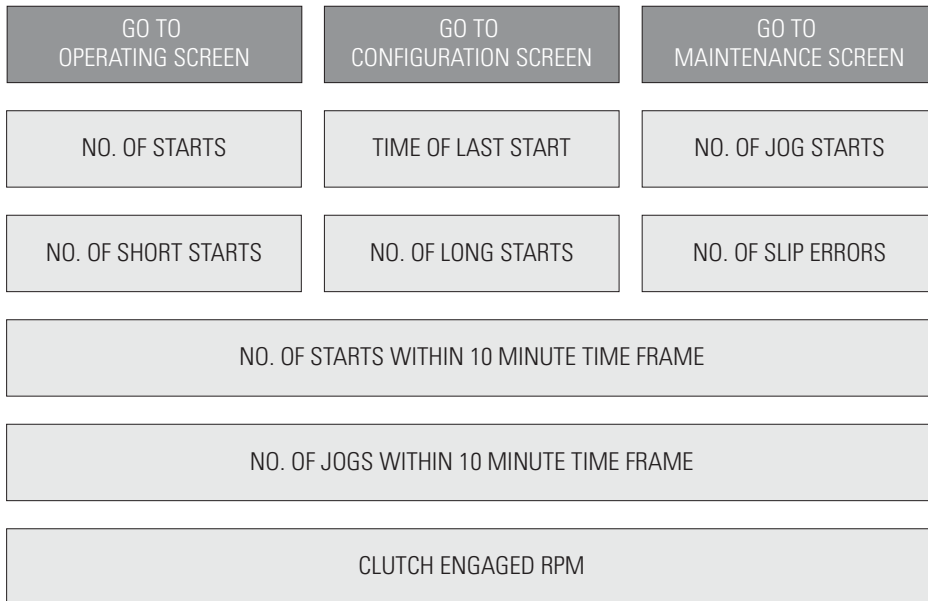

Figure 7
4.2.3 When the MILL RUN LOCAL or MILL JOG pushbutton is pressed, the mill run indicating light will flash until the prestart delay is over. When the prestart delay is over, the clutch will start to engage and the indicating light will stay on solid. The background of the Mill RUN LOCAL and MILL JOG pushbuttons on the operating screen of the HMI will flash according to the number of starts and JOGs that have been performed or attempted in a 10 minute time frame. This is to let the user know if they are about to reach the maximum allowable start/JOG limit. The number of starts and JOGs that have been accumulated in the 10 minute time frame can also be seen on the history screen of the HMI. Refer to Figure 7 for the layout of the history screen of the HMI and the information available. Also refer to section 3.1.1, item (g) for additional description of the cool down timer
5.6.1 Various operating and historical information is available on the history screen of the HMI. Refer to Figure 7 for the layout of the history screen and the information available. The number of starts, number of JOG starts, number of short starts, number of long starts and number of slip errors is retained data. This data will be retained through a reboot. The other data on the history screen is not retained.